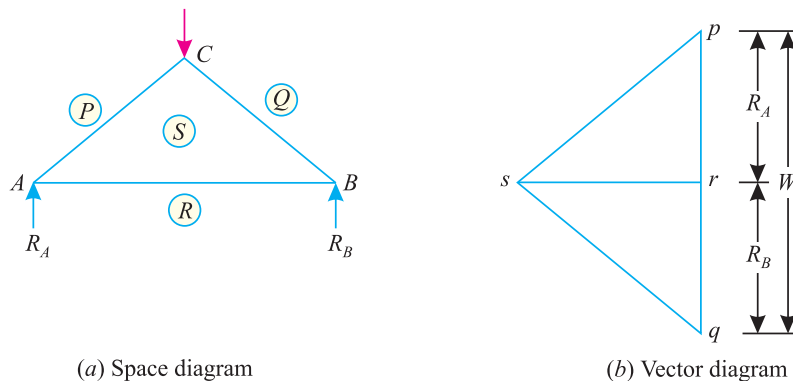

Fig. 14.1.
It means the construction of a diagram of the given frame to a suitable linear scale, along with the loads it carries. The magnitude of support reactions is also found out and shown in the space diagram. Now name the various members and forces according to Bow's notations as shown in Fig. 14.1 (a).
In the space diagram of the truss  $ABC$  shown in Fig. 14.1 (a), the members  $AB$ ,  $BC$  and  $CA$  are represented by  $SR$  (or  $RS$ ),  $SQ$  (or  $QS$ ) and  $PS$  (or  $SP$ ) respectively. Similarly, load at  $C$  and reactions at  $A$  and  $B$  are represented by  $PQ$ ,  $RP$  and  $QR$  respectively.
4. Now through  $p$  draw a line  $ps$  parallel to  $PS$  and through  $r$  draw  $rs$  parallel to  $RS$ , meeting the first line at  $s$  as shown in Fig. 14.1 (b). Thus  $psrp$  is the vector diagram for the joint (A).
5. Similarly, draw the vector diagram  $qrsq$  for the joint (B) and  $pqs p$  is the vector diagram for the joint (C) as shown in Fig. 14.1 (b).